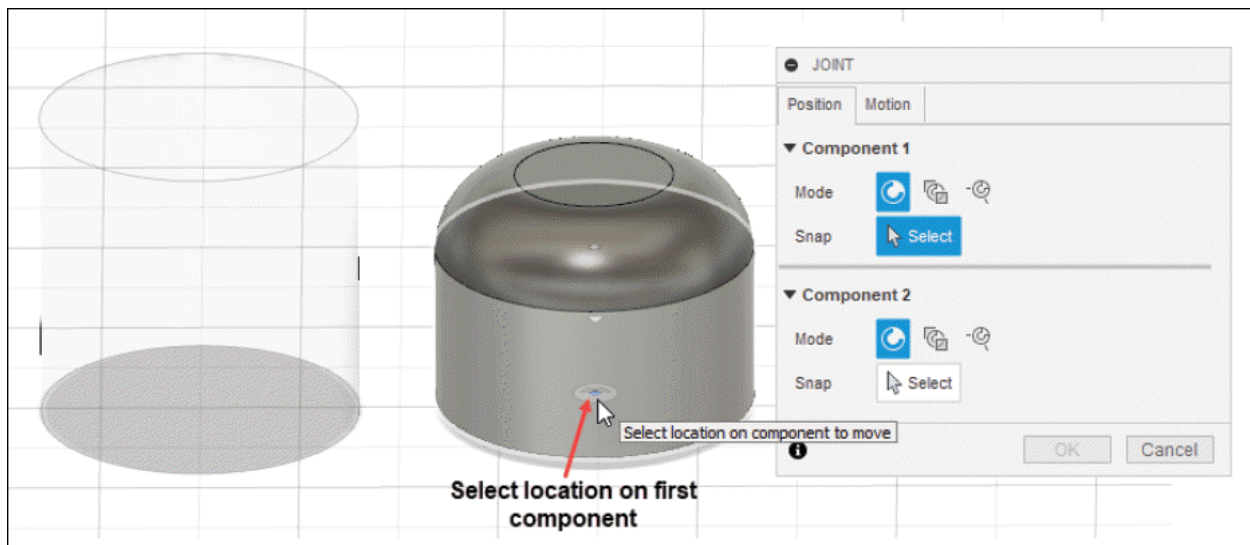

Figure-12. Selection of component 1 location
- **Select** button of **Snap** section from **Component 1** area is active by default. Click on the first component at desired location to assemble; refer to Figure-12. You will be asked to select a location on second component.